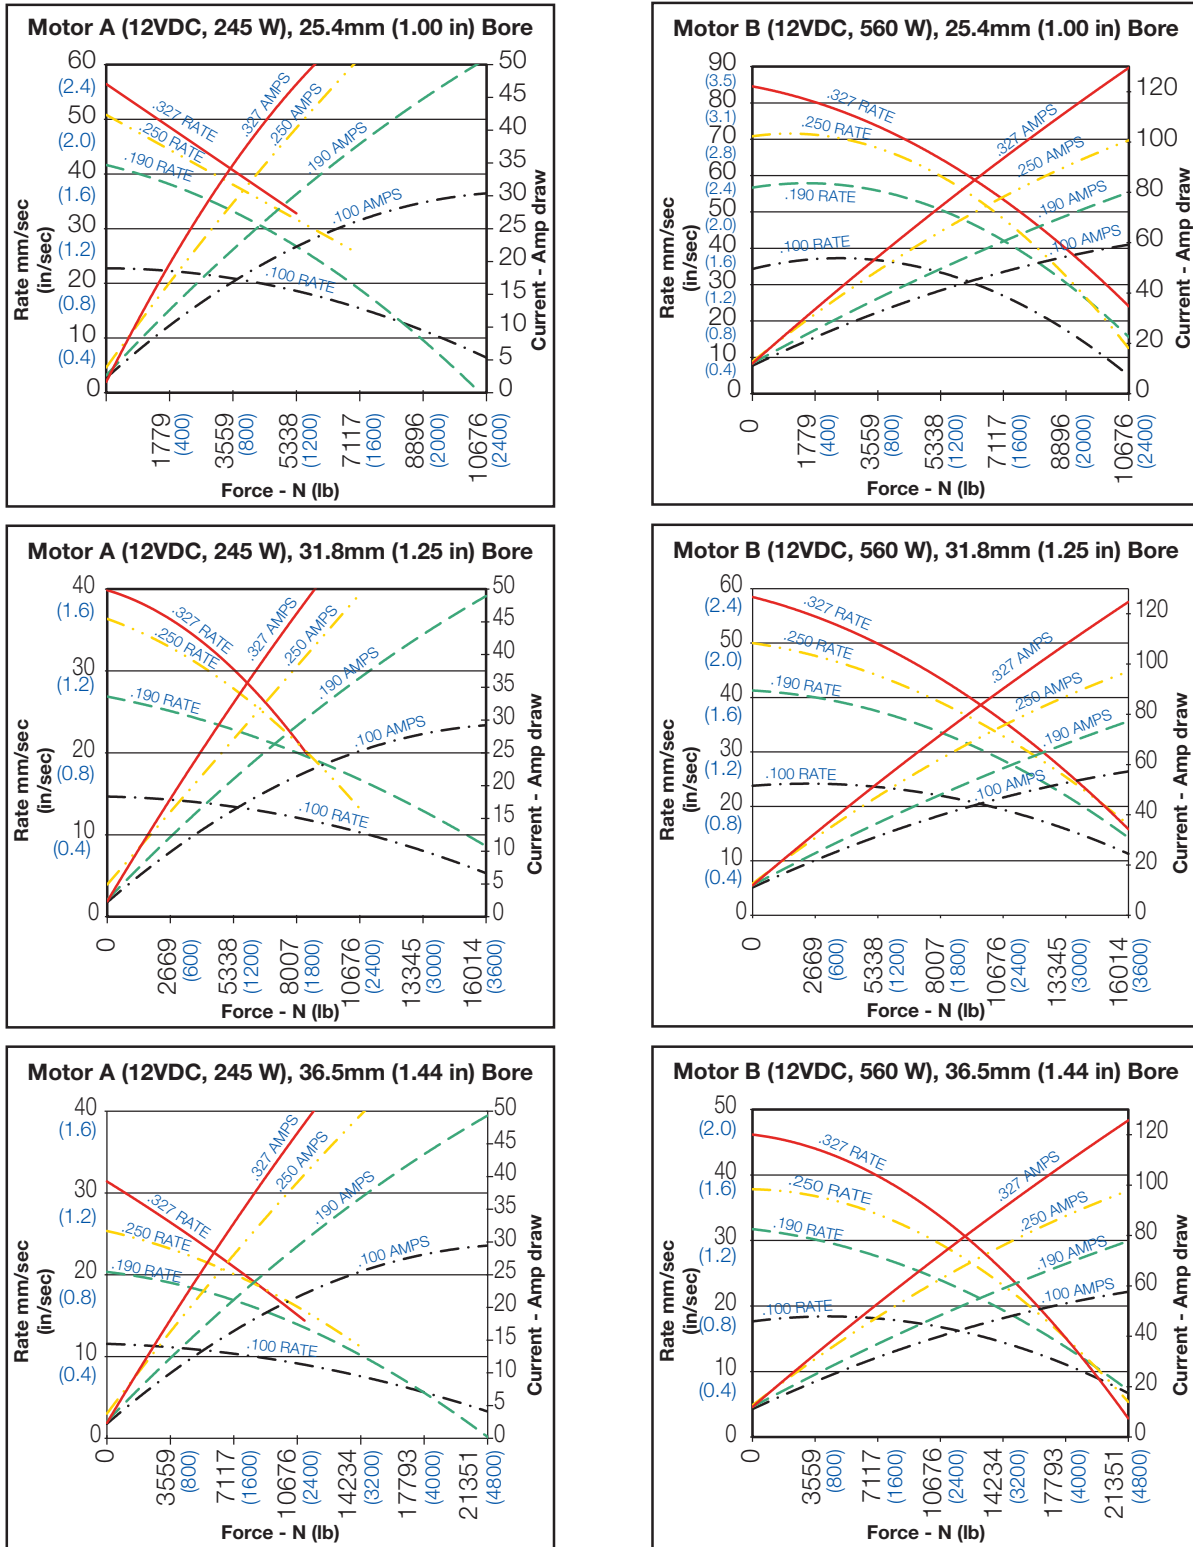

Figure 7
Fuse protection can be added to the wiring circuit if desired. Use a slow blow fuse so it will not be tripped from the inrush current. Make sure the fuse is sized above the maximum requirement for the application and below the maximum available from the power supply. See **Figure 7** for approximations of maximum amperage based on basic configurations.
See **Figure 7** for performance curves to identify parameters of operation and **Figure 8** to identify motor duty cycle characteristics.
5. EHA operating at a continuous duty cycle – cease operation. Discontinue use until required operation of the unit will fall within the duty cycle characteristics illustrated in **Figure 7**.